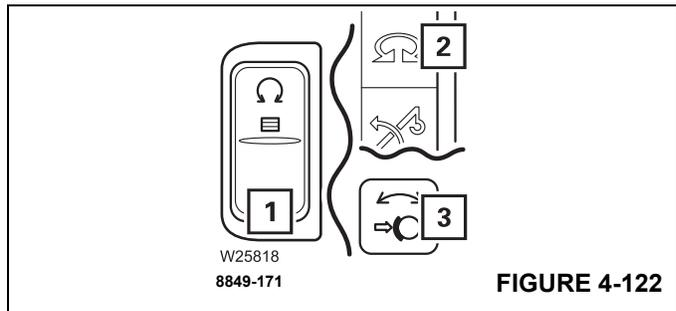

FIGURE 4-122
- Press the button (1), (Figure 4-122) once.
- The lamp in the button (1), (Figure 4-122) will light up dimly.
- Symbol (2), (Figure 4-122) will turn red if the swing gear is switched off.
- The swing gear brake is applied – lamp (3), (Figure 4-122) lights up.